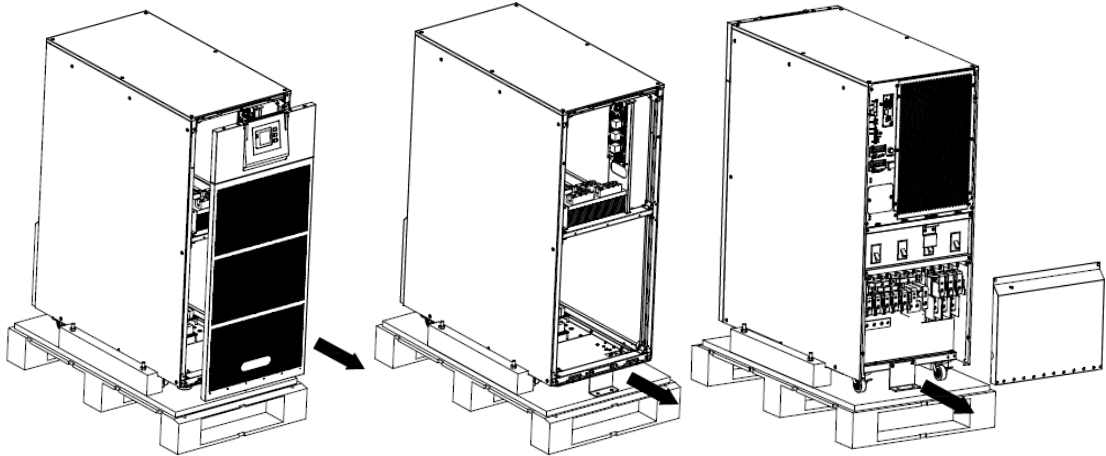

Fig. 1-2 Front and rear panel removal
6. Remove the front panel and rear panel to remove the L-shaped bracket that secures the cabinet and the pallet, and secure the sliding (Fig. 1-2).